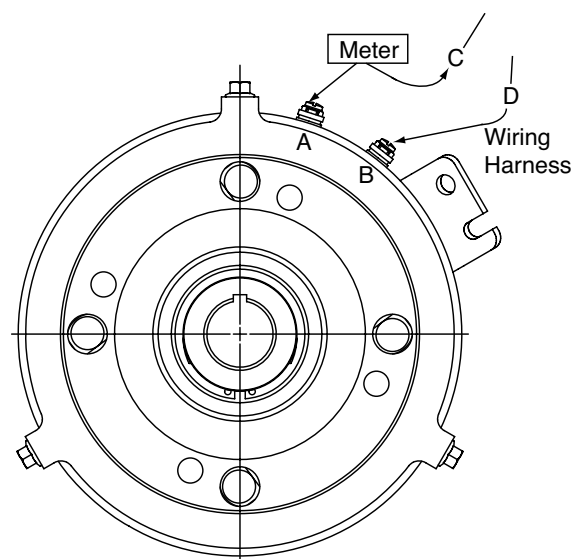

Figure 3
2. Disconnect clutch wire on one terminal, leaving other wire "D" connected to the clutch "B". (Figure 3)
4. Connect one meter lead wire to the clutch at "A" (Figure 3)
5. Connect the other meter lead wire to the corresponding wire from the harness at "C" (Figure 3)